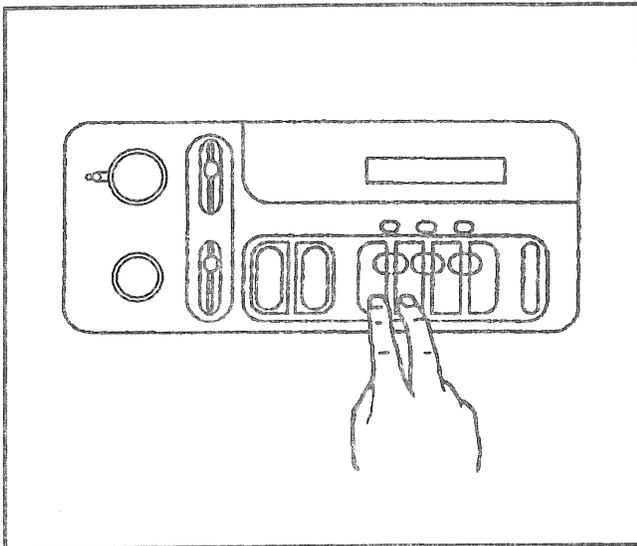

Figure 2—Pushbutton Pairing (1 of 3)
3. Press any two station pushbuttons at the same time (Figures 2 through 4). The station will return when the same two pushbuttons are pressed again.